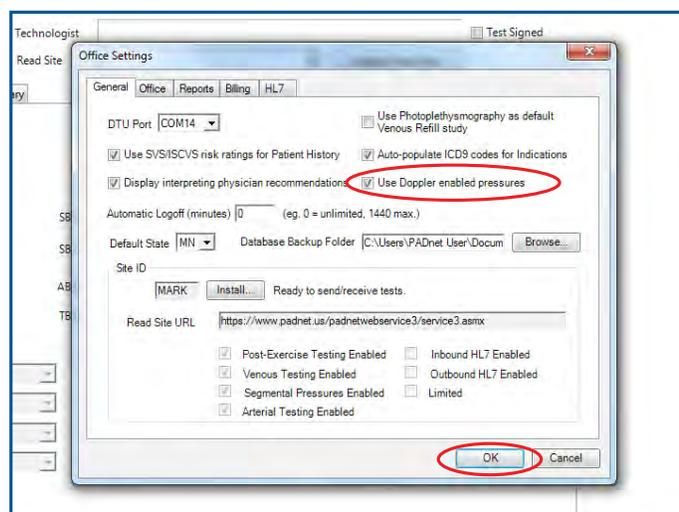

FIGURE 1.39 - Office Settings Window - “Use Doppler enabled pressures” Checkbox and “OK” Button
3. Click the checkbox to select “Use Doppler enabled pressures” in the upper right. Then click the “OK” button (Figure 1.39). This activates Doppler pressure input for each anatomical pressure location for the duration of the test. The device will inflate the pressure cuffs and allow Doppler-indicated return of flow to be recorded as part of the test.